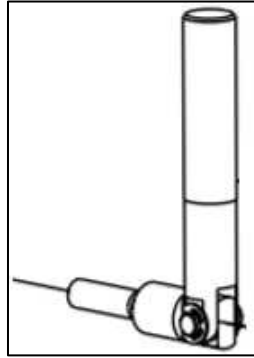

Figure 7
5. If the head *will never* move from left to right, then install the monitor on the shelf. Avoid hitting the pivot handle (see Figure 7). If the head *will be* moving, then place the monitor on the tabletop next to the machine. This way, the pivot handle can be easily reached and moved as necessary.